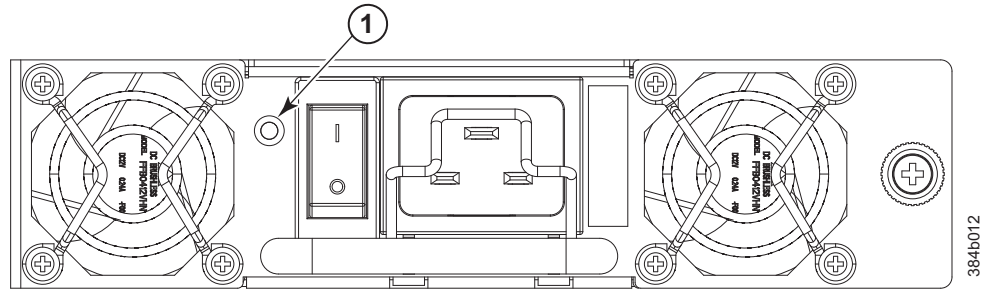

Figure 28. Power supply
1. Check the LED indicator on the power supply (see Figure 28 on page 57). The LED patterns may temporarily change during POST and other diagnostic tests; for information about how to interpret the LED patterns, see Table 12 on page 57.